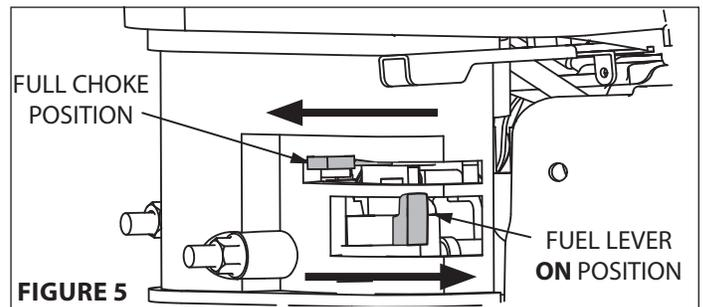

FIGURE 5
1. Move the fuel valve lever to the **ON** position. **SEE FIGURE 5**
- If the engine is cold or the ambient temperature is low, move choke lever to the **FULL CHOKE** position. **SEE FIGURE 5**